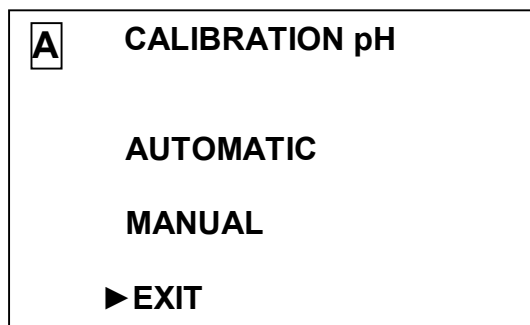

Figure 2.9
enter” button, the screen as shown in Fig.2.9 will appear.
- 2 Press the “menu” “enter” button, the screen as shown in Fig.2.9 will be displayed.